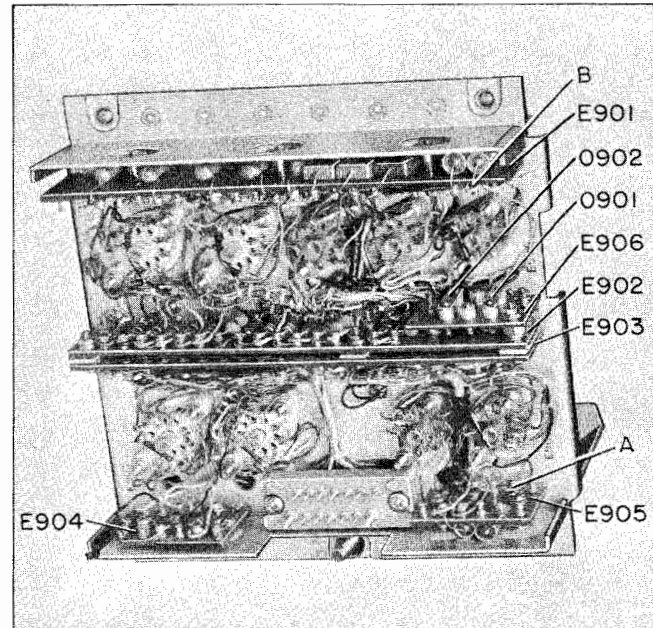

Figure 7-18. Diversity Selector Unit Chassis,
(1) Connect the microammeter first to pin 12 of P901, and adjust a-c voltage to give a 50-micro-ampere reading. Change meter to pin 11 of P901. The reading should also be about 50 microamperes. If these readings are obtained the channel amplifier and avc rectifier circuits are satisfactory. Continue with step (3). If not satisfactory, continue with step (2).
(2) If no indication is obtained in step (1), connect a test oscilloscope first to pin 1 and then to pin 5 of each of the two input tubes V901 and V908. A sine wave should appear at each point indicated, but the amplitude of the signal at pin 5 should be greater than at pin 1. Turn the power off before contacting pin 5. If a signal is on pin 5 check the circuits of V902 and V909 pins 1 and 7 each.
(3) Connect an electronic voltmeter between O901 and ground (see Figure 7-18). A d-c voltage should be observed whose polarity will depend on which channel is conducting (positive when channel A is conducting, negative when channel B is conducting).
(4) Turn off power. With switch S901 on COMBINED (center position) connect pin 6 of V903 to one side (pin 4) of filament. Connect test oscilloscope to pin 6 of V903. Turn on the power and observe signal amplitude. Turn off power, connect test oscilloscope to pin 1 of V903. Turn on power. If signal amplitude is smaller, trouble is in V903 circuit. If signal amplitude is greater proceed with step (5).
(5) Connect the test oscilloscope (with the power turned off) to pins 2,7,1 and 6 of tubes V904 and V905. At all points a square-wave signal should be obtained; if not, check circuit values and voltages for the trouble.
(6) Connect the test oscilloscope to pin 7 of V906 and then to pin 7 of V907. A square-wave signal should be on each grid and cathode, pin 8. A similar signal should appear on the plate, pin 1 of V906 and V907.